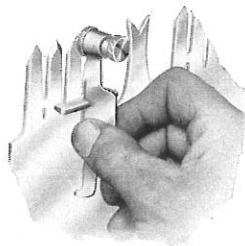

Figure 6
7. The amount of set necessary is determined by the kind of material to be cut. Perfect alignment is absolutely necessary. Therefore, always use the set gauge. The use of a set gauge is shown in Figure 6, Page 42.
The point of the tooth should project about 1/4 inch over the apex of the setting block, and the setting should be done by means of a firm, sharp blow on the top, just at the place where it rests on the apex of the setting block. If too large set is imparted, reduce the set by hammering the tooth placed on the flat surface of the set-block. If too little set is imparted at the first operation, either using a little harder blow or allowing the tooth to project a little farther from the apex of the anvil. Each tooth, after setting, should be gauged for accuracy, as shown in the cut illustrating the use of a set gauge (Fig. 6). We submit on Page 43 a number of cuts for your consideration which show the principal forms of saw teeth, both cutting teeth and rakers, for different kinds of timber and different requirements.